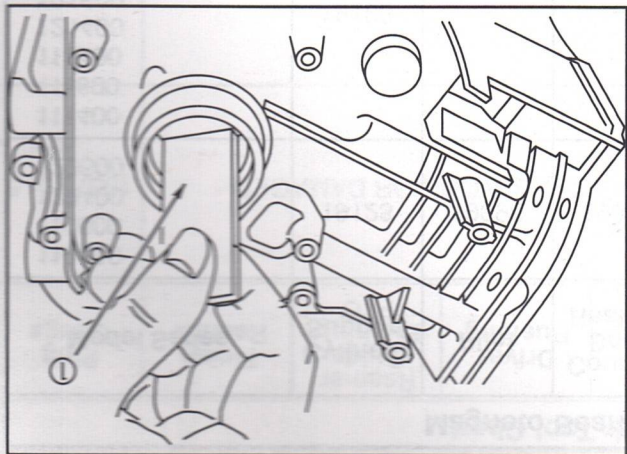

Fig. 4
Bearings should be replaced if scored or if plug gauge (1) will enter. Try gauge at several locations in bearing, Fig. 4.